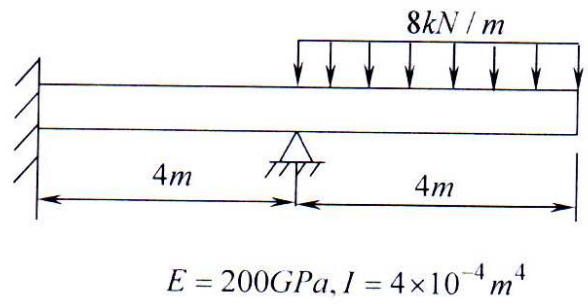

Fig. Q 7(b)
- b. For the beam shown in Fig Q 7(b), determine the nodal deflections, slopes and the vertical deflections at the mid-point of distributed load. Use two element approximation and take $E = 70 \text{ GPa}$, $I = 3 \times 10^{-4} \text{ m}^4$. 14